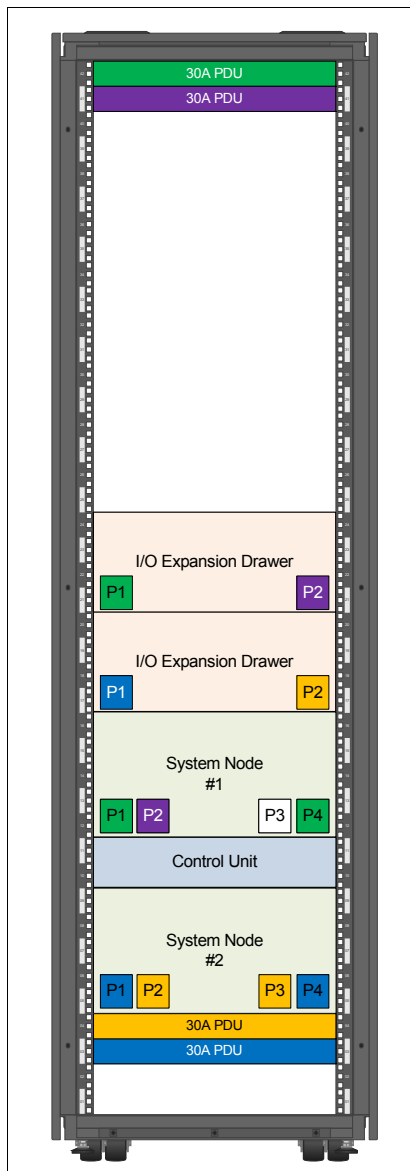

Figure 1-12 Two system node configuration and two I/O expansion drawers supplied by 30A PDUs
- ▶ For PDU #7109 and #7188 when using 24 Amp power cord #6654, #6655, #6656, #6657, or #6658, each pair of PDUs can power one Power E870 or Power E880 system node and two I/O expansion drawers, or eight I/O expansion drawers. 24A PDU cables are used to supply 30A PDUs. In Figure 1-12 on page 33, you can see the rack configuration with two pairs of 30A PDUs supplying a two system node configuration and two I/O expansion drawers.